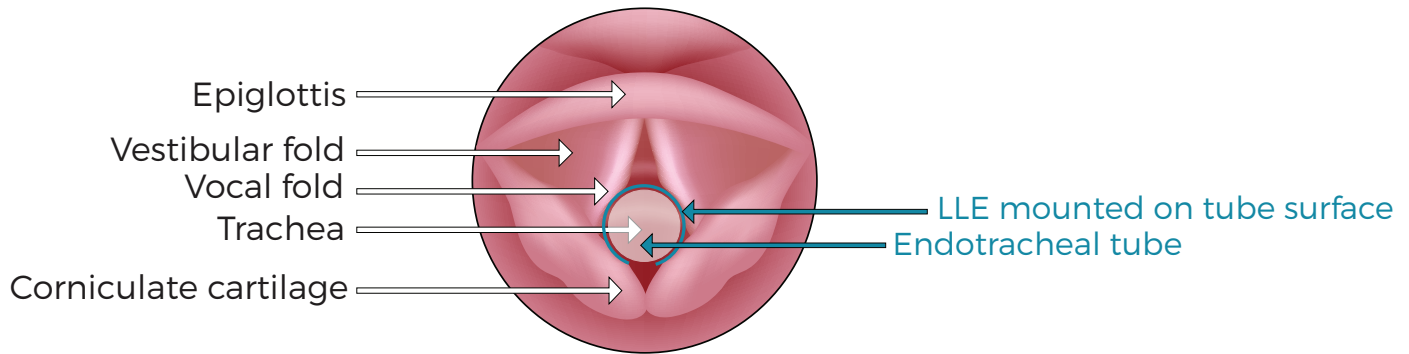

Figure 4.2: View of the Larynx after intubation with the LLE attached.
4. Intubate as normal, move the patient onto the operating table, then confirm that the LLE is still located between the vocal cords with the patient's neck extended and at their final resting position (Figure 4.2, above). If the LLE is correctly placed on the endotracheal tube, the tube should be approximately 19cm at the teeth in women, 20cm in men (allow for patient variation).